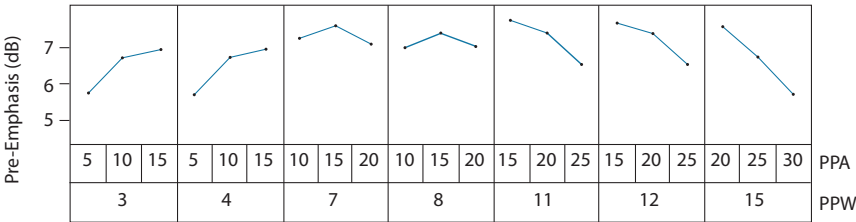
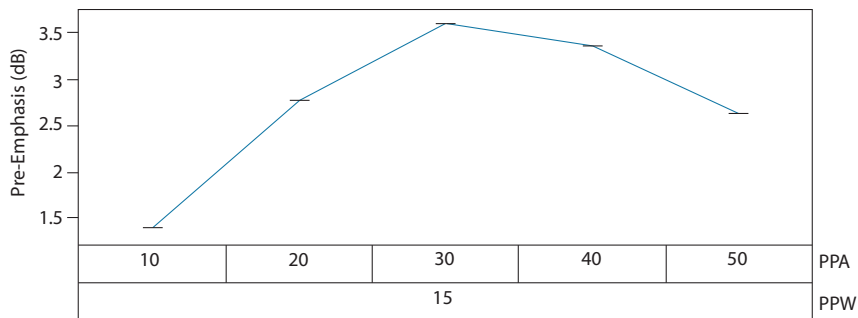

Figure 4-12: Pre-emphasis Settings for VCCO_1 = 1.2V and DS = 7 (swing = 200mV_{pp})
Figure 4-19: Pre-emphasis Settings for VCCO_1 = 2.5V and DS = 35 (swing = 800mV_{pp})
The only requirement of the Trace Driver pre-emphasis settings is to minimize ISI introduced by a lossy link and maximize the eye opening at the receiver. The pre-emphasis compensation of the GS3590 output channel is a two-step process. The first step is to use the settings from Figure 4-12 to Figure 4-19 that best match the insertion loss of the link in the application, while the second step is a fine optimization procedure.
1. Pre-emphasis Amplitude (PPA) Optimization: Set the PPA and PPW to the values obtained from the graph selected out of Figure 4-12 to Figure 4-19, and then measure the downstream jitter. While keeping PPW constant, increment the PPA by 'a'. If the jitter is lower after the first increment, continue to increment by 'a' until the jitter begins increasing or a setting of 50 is reached. If there was a setting which resulted in a lower jitter measurement than the initial setting, that is the Optimized Pre-emphasis Amplitude setting: $PPA_{Optimal}$, and the PPA optimization procedure is complete.
If incrementing the PPA or decrementing the PPA did not result in a setting with lower jitter, then the initial setting obtained from the graph selected out of Figure 4-12 to Figure 4-19 is the PPA optimized Pre-emphasis Amplitude setting: $PPA_{Optimal}$.
2. The second step is to set the PPA to the optimized setting $PPA_{Optimal}$ determined in step 1 and PPW to the values obtained from the graph selected out of Figure 4-12 to Figure 4-19, then measure the downstream jitter. While keeping PPA constant, increment the PPW by 'w'. If the jitter is lower after the first increment, continue to increment by 'w' until the jitter begins increasing or a setting of 15 is reached. If there was a setting which resulted in a lower jitter measurement than the initial setting, that is the Optimized Pre-emphasis Width setting: $PPW_{Optimal}$, and the optimization procedure is complete.
If incrementing the PPW or decrementing the PPW did not result in a setting with lower jitter, then the initial setting value obtained from the graph selected out of Figure 4-12 to Figure 4-19 is the optimized Pre-emphasis Width setting: $PPW_{Optimal}$.